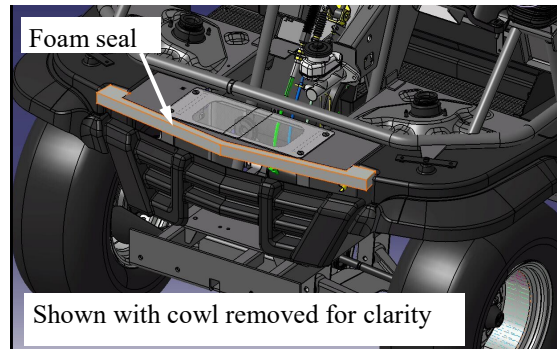

Figure 18
2. **RTV-900 ONLY:** Loosen the orange, front cowl of the vehicle by removing the four button head allen bolts (2 each side) from the dashboard area and the two hex head bolts underneath the headlights. The cowl does not need to be completely removed, just lift up the front to install the foam seal provided by adhering it as shown. (See figure 18). NOTE: the self-adhesive foam seal will adhere best if applied to a clean, dry surface at room temperature.